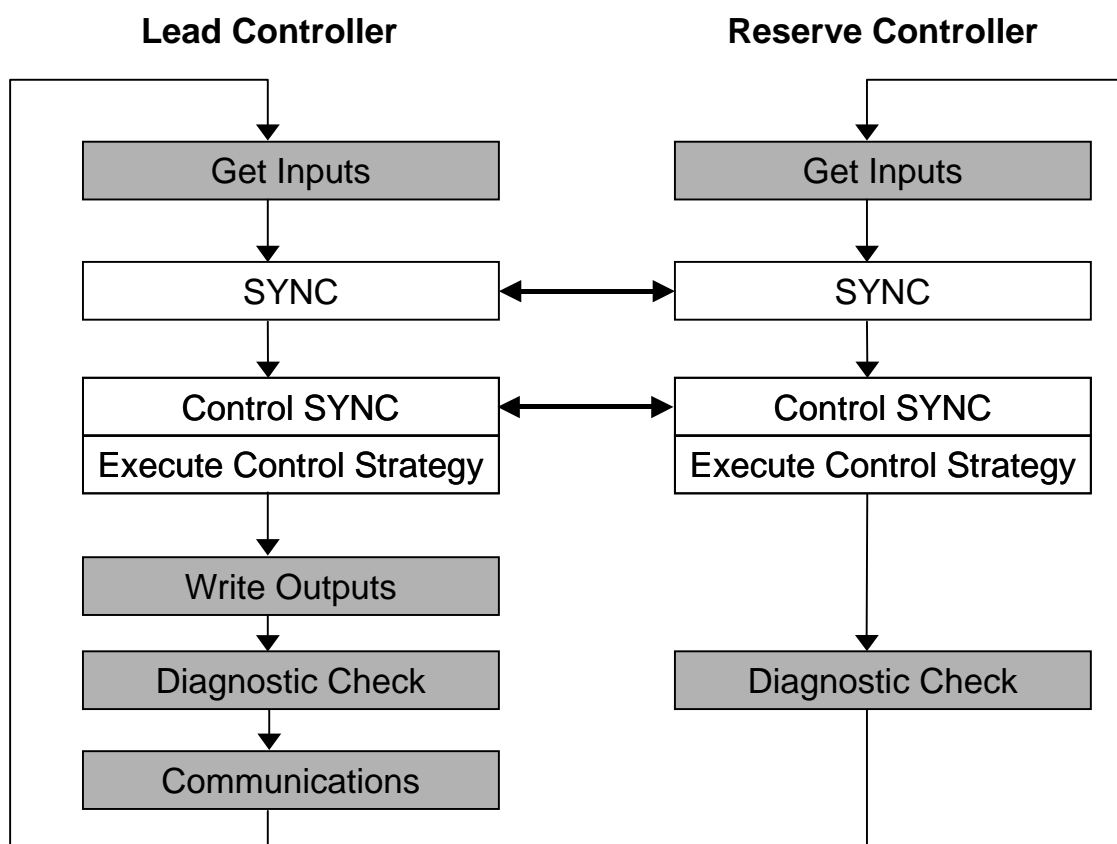

Figure 83 – Lead/Controller synchronization
- Both the Lead and Reserve Controllers execute the function blocks in the control strategy, but only the Lead Controller writes the physical outputs to the I/O Racks. See Figure 83.